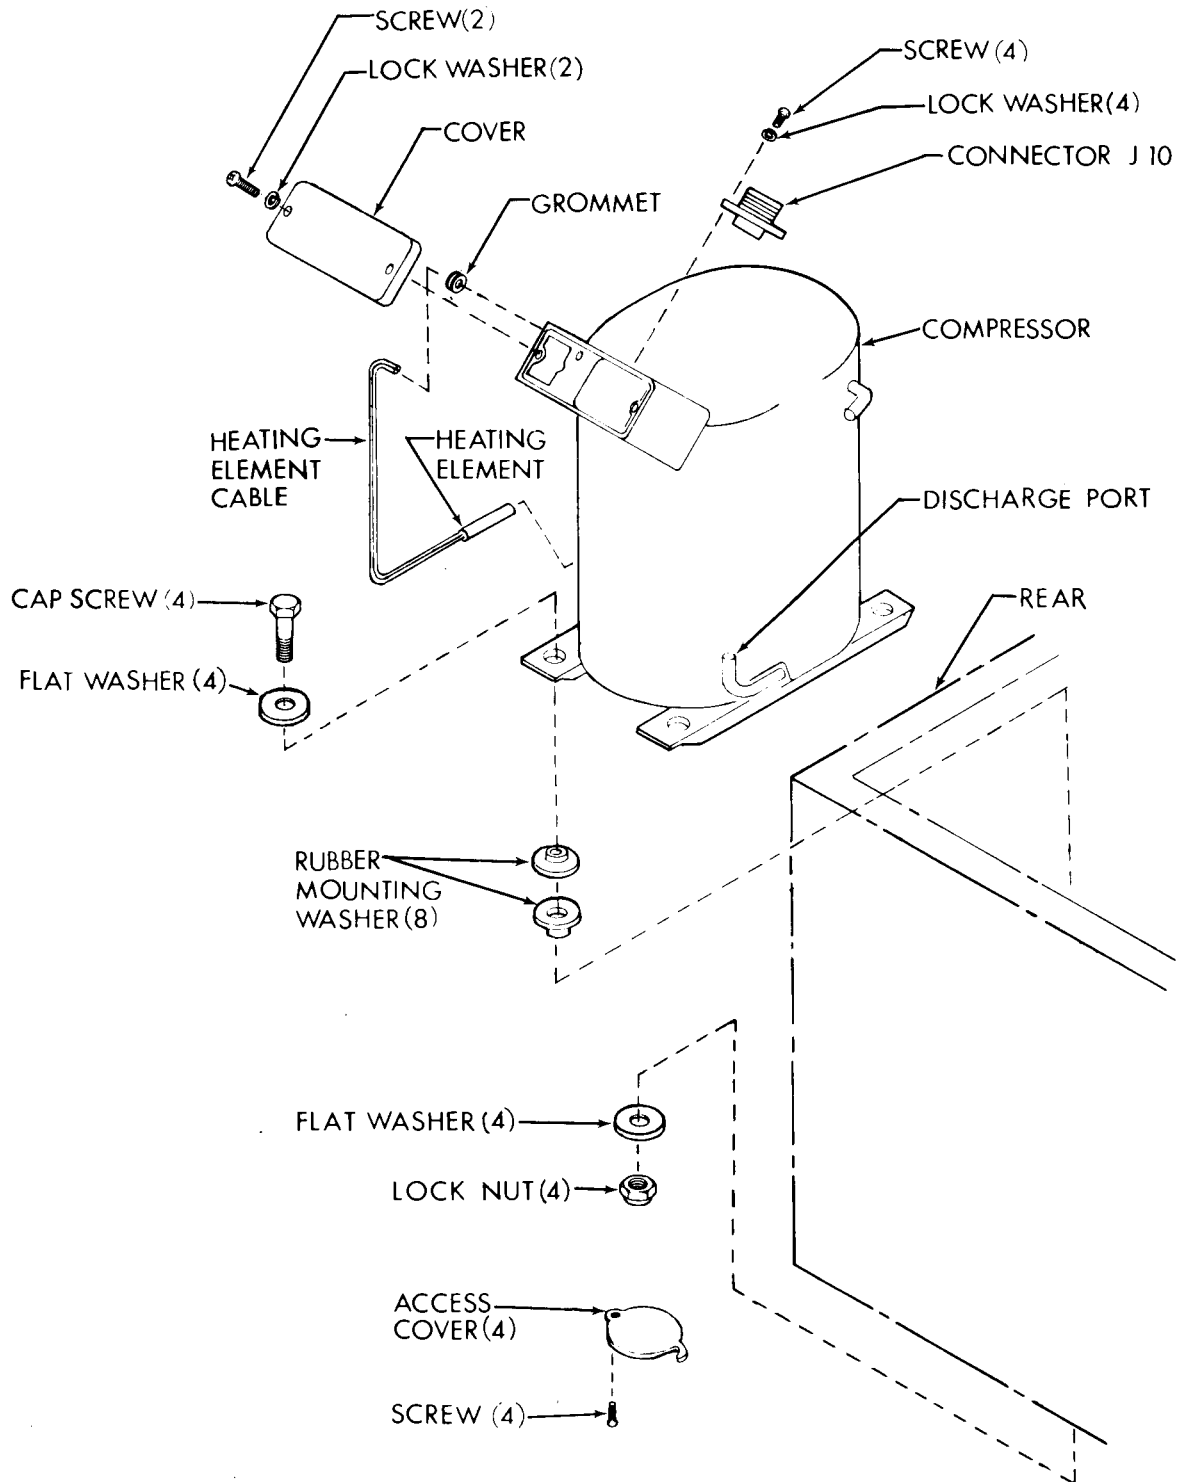

Figure 5-21. Compressor
The compressor and motor assembly are hermetically sealed in a metal canister. The crankcase heater element, related parts, and the electrical connector are attached to the canister externally and may be replaced without opening the refrigeration pressure system. The compressor is located in the rear (compressor/condenser) compartment. (See fig. 5-21.)
(3) Compressor. (See fig. 5-21.) Two people are required for compressor removal.